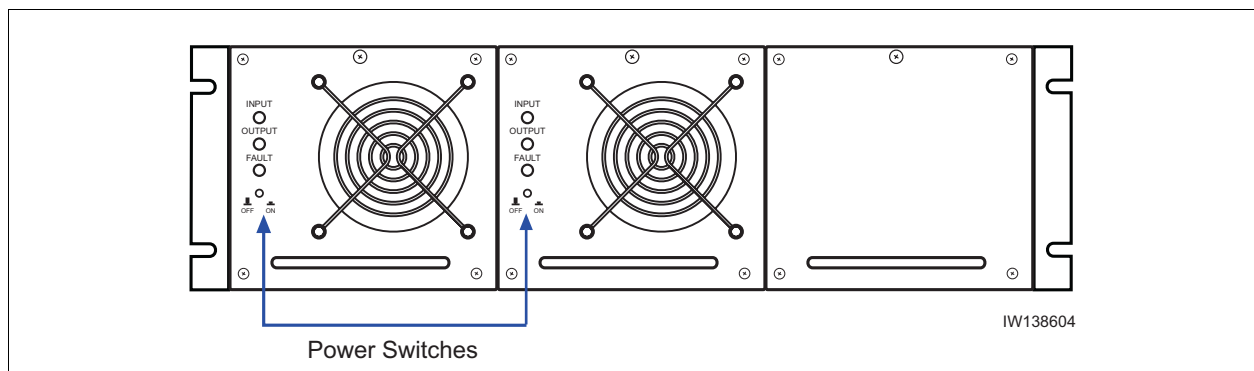

Figure 2-16: DC Power Supply Module ON/OFF Switches
- 2 Make sure that the power button located on all power supply modules is in the raised OFF position. See Figure 2-16 for the location of the power supply power buttons.